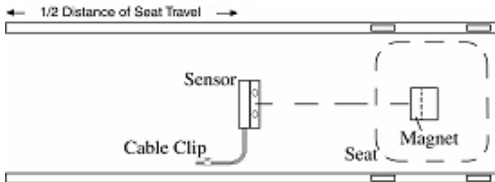
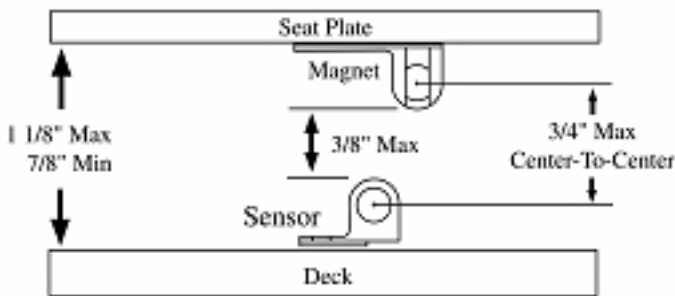

FIGURE 1a: SENSOR AND MAGNET INSTALLATION (Sensor Installed on Centerline of Seat)
FIGURE 2: SENSOR AND MAGNET SPACING
1. Refer to FIGS 1a, 1b. Note the position of the sensor – it should be close to the center of the seat travel and it MUST be perpendicular to the length of the shell. It is not necessary for the sensor and magnets to be centered between the rails as shown in Figure 1a. They may be positioned off center as shown in Fig 1b. It is essential however that the magnet passes directly over the sensor.
Because the distance between the seat plate (to which the magnets will be attached) and the deck (to which the sensor will be attached) varies considerably from shell to shell, you should start by measuring this distance. Refer to FIG 2.
- If the distance measured as in FIG 2 is between 7/8" and 1 1/8" you may mount the sensor and magnet with no further adjustment.
- If the distance measured as in FIG 2 is GREATER than 1 1/8" then you will need to make a spacer of appropriate thickness. You may choose to shim the sensor or the magnet, whichever is easier. DO NOT use any magnetic material for your shim.
- If the distance measured in FIG 2 is LESS than 7/8" then you will have to remove material from either the seat or the deck OR try mounting the magnet on the upper side of the seat plate.
5. Return the stroke seat to its slide and check that the clearance between the magnet and sensor is no more than 3/8" (refer to FIG 2). Check also that the magnets pass directly over the sensor (refer to FIGS 1a, 1b).